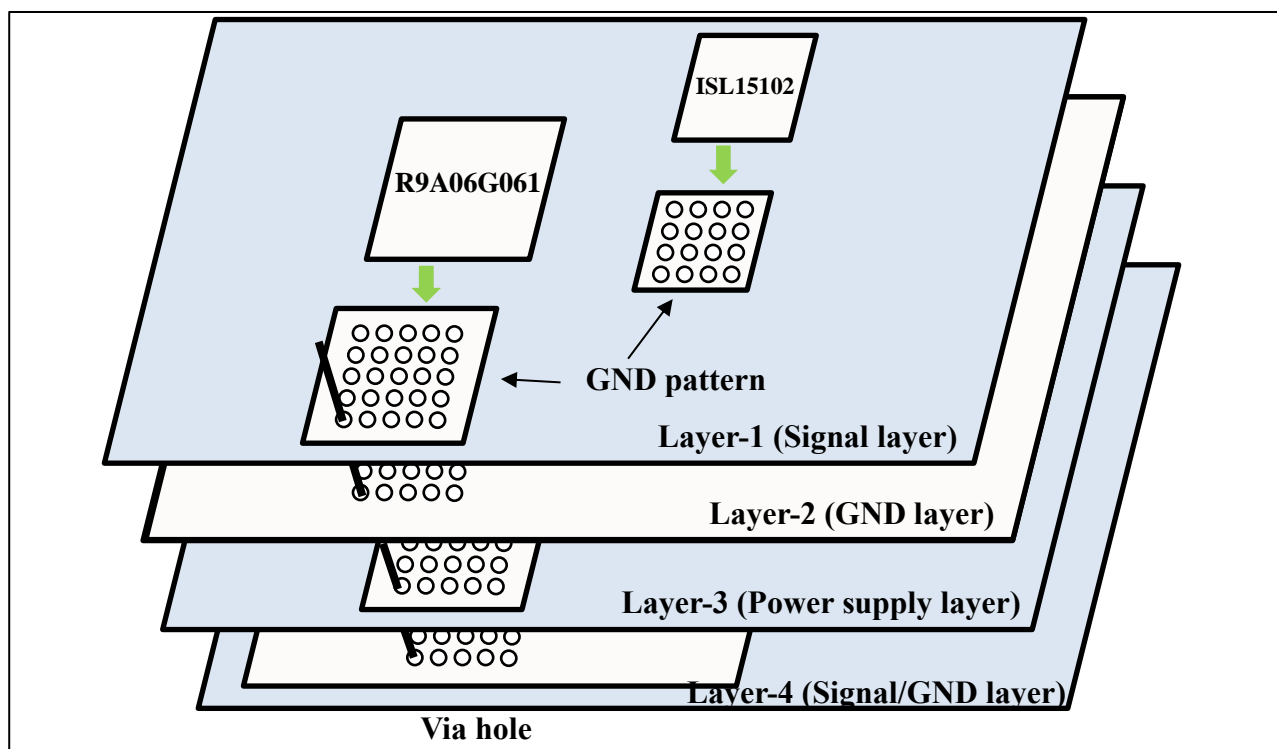

Figure 5-1 Example of PCB Substrate Configuration and GND pattern for the DC-PLC Board
- There is the exposed die pad (internally connected to GND) on the back side of R9A06G061 and ISL15102 for heat dissipation. Place GND pattern to connect the exposed die pad on 1st layer, 2nd layer, 3rd layer and 4th layer, and connect the GND pattern of each layer with via holes. Place via holes as much as possible on GND pattern (recommendation: hole diameter: 0.3mm, R9A06G061: more than 12 pcs, ISL15102: more than 9pcs). Figure 5-1 shows an example of the PCB layer structure and GND pattern of a DC-PLC board.
- It is recommended to configure the power supply layer with the PCB substrate configuration of the PLC board as shown in Figure 5-1.